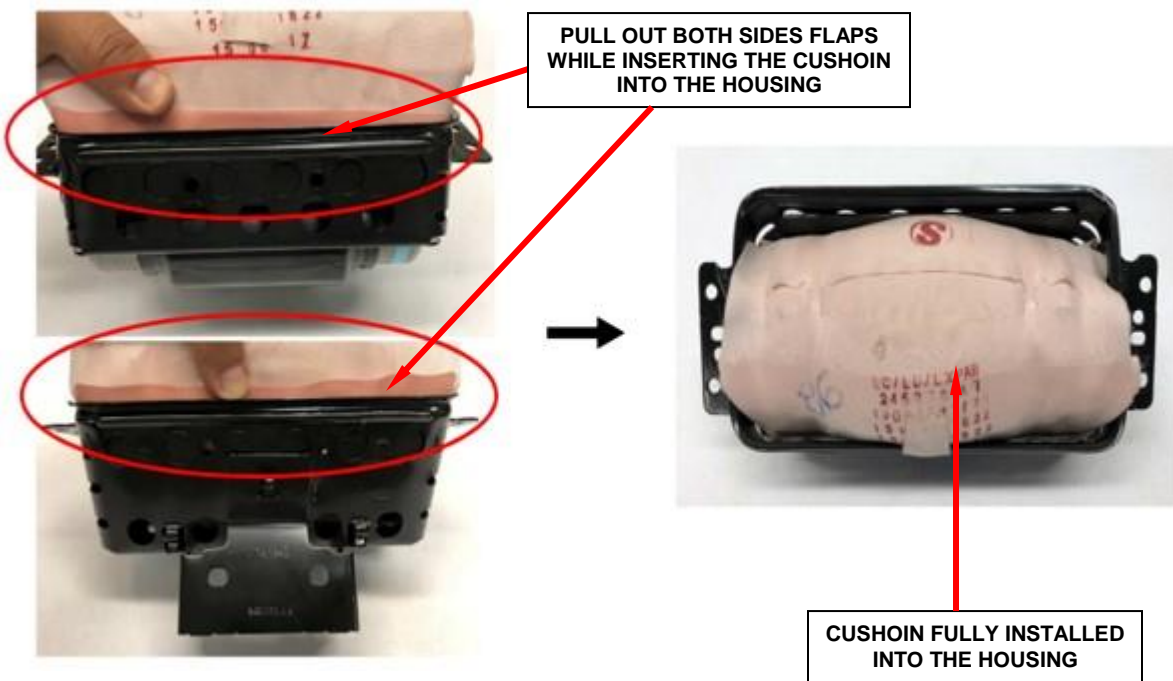

Figure 62 – Side Flaps Must Be Held Out
1. Insert the cushion, pulling out both side flaps (Figure 62).
- r. Attach the white wire to the three hooks on the housing (Figure 62).